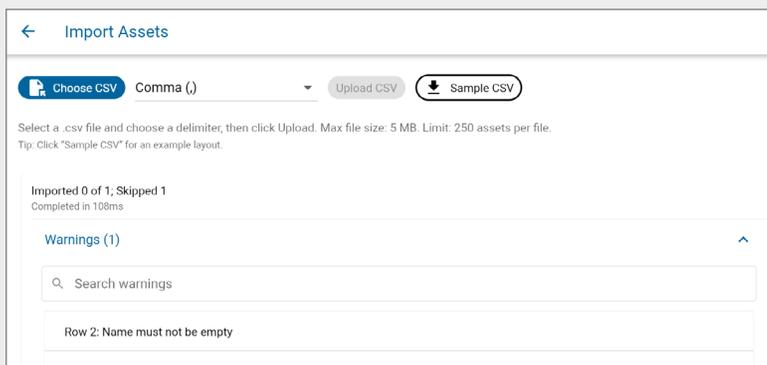

Fig. 77 – Import results
- 🔑 When the import is finished, you will see the number of assets that were successfully imported and if any assets were skipped (as shown in Fig. 77). Additionally, you can review warnings about issues in the CSV file that may have prevented assets from being imported by expanding the **Warnings** list.